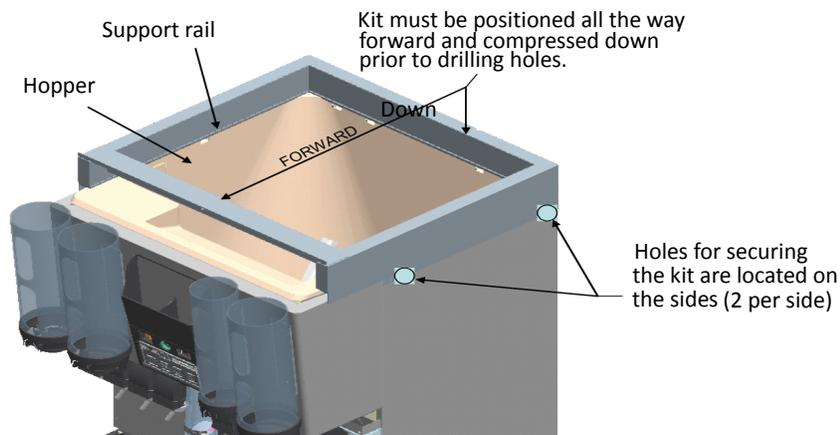

Figure 1.
3. Using the four holes in the adapter cover as templates, drill 9/64" (.140" Dia.) holes in the sides of the dispenser sheet metal (2 holes per side). **USE EXTREME CAUTION NOT TO DRILL INTO ANY OTHER COMPONENTS.** Maximum drill depth from the face of the kit should not exceed 3/8" (just enough to go through the material being drilled). Remember, the kit should be positioned all the way forward and compressed down before drilling holes. After holes are drilled, secure the kit to the machine using the screws provided, refer to Figure 1.